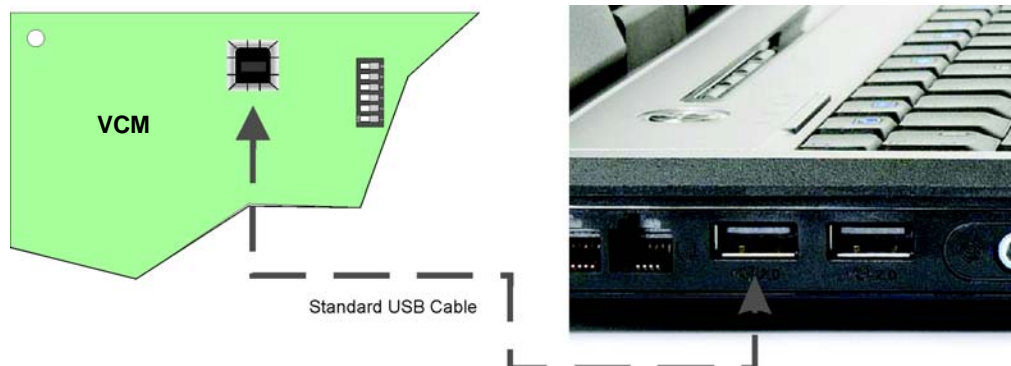

Figure 11-8 USB Cable Connections
2. Connect the PC to the ECS-VCM using a standard USB cable. See Figure 11-8.